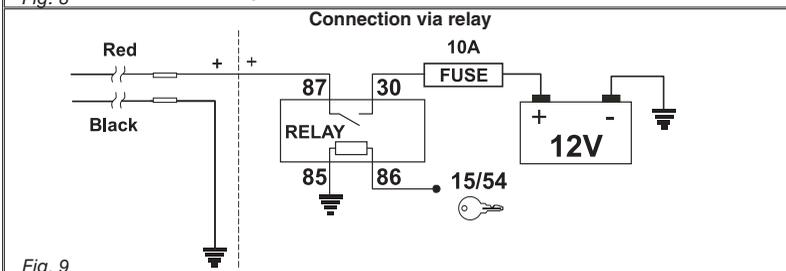

Fig. 9
- Otherwise install a relay as indicated in Fig. 9, and install a 10 A fuse on the power cable. Use cables whose section is a minimum of 2.5 mm².